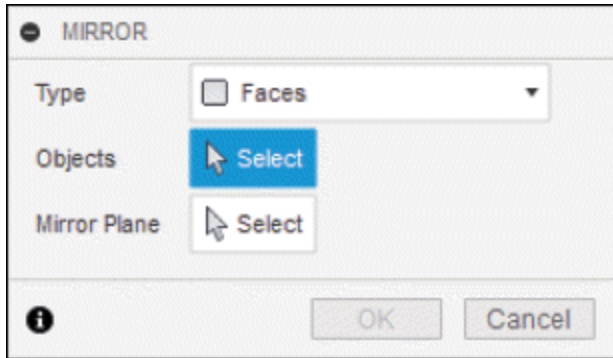

Figure-49. MIRROR dialog box
- Click on **Mirror** tool of **CREATE** drop-down from **Toolbar**. The **MIRROR** dialog box will be displayed; refer to Figure-49.